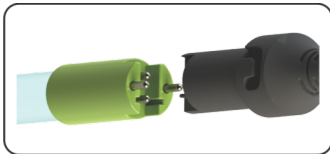

Figure 8a. Standard Output UV Lamp Connection
Step 14: Plug the lamp connector into the lamp. Note the keying for proper alignment (see Figure 8a, 8b). Insert the lamp connector into the gland nut and turn the connector approximately ¼ turn to lock the connector to the gland nut as in Figure 9.